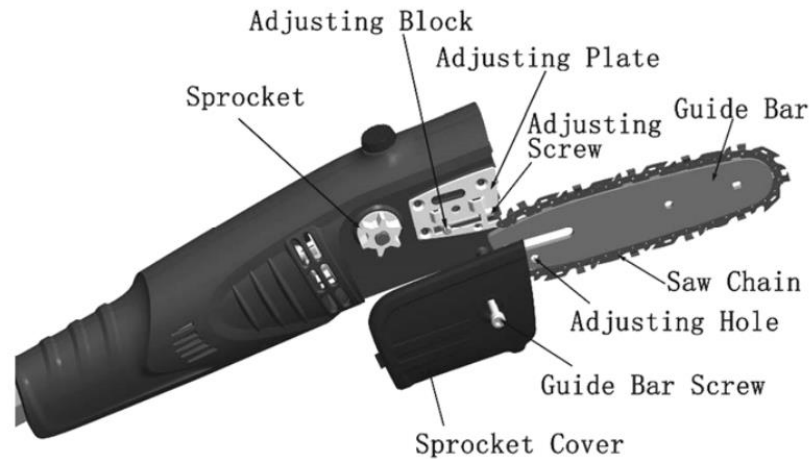

Figure 1
2. Turn the adjustment screw anticlockwise (see Figure 1). Continue turning the adjusting screw until the adjusting block is at the rear of the adjusting plate.
4. Placez Place the chain around the drive sprocket, then along the top groove of the guide bar and around the nose of the guide bar. Note: Make sure the cutting edges of the chain are pointing in the right direction. Position the chain so that the cutting edges are on top of the nose of the guide bar (see figure 1).